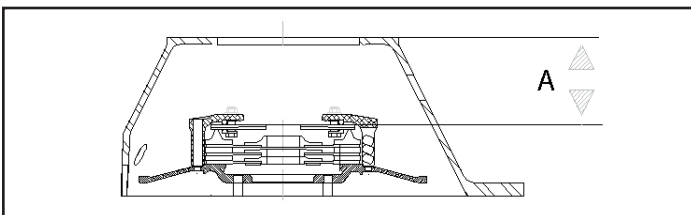
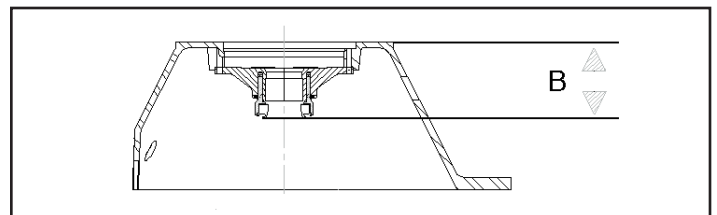

Figure 1
Figure 2
5. **Check the bearing clearance.** Install the flywheel and new clutch assembly as directed in their instructions. A clutch assembly with worn friction discs will not provide accurate results. Bolt the bellhousing to the engine without the release bearing assembly. Measure the distance, as shown as **Dimension A** of **Figure 1**, from the bellhousing transmission face to the tips of the clutch spring fingers. Remove the bell housing and install the release bearing assembly. Make sure that the piston is fully compressed. Then measure the distance, as shown as **Dimension B** of **Figure 2**, from the bellhousing transmission face to the top of the bearing.